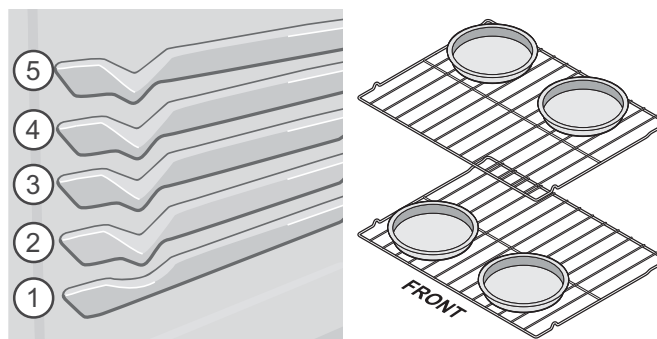

Figure 21: Rack positions (L) and pan spacing (R) recommendations
- For best results when baking cakes using two oven racks, place racks in positions 2 and 4. When baking using two oven racks, position bakeware as shown in Figure 21. Allow at least 2 inches (5 cm) of space between bakeware for proper air circulation.